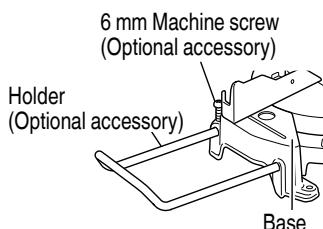

Fig. 17
- As indicated in Fig. 17, installing the holder in the holes on the side of base and fasten it with 6 mm machine screw (Optional accessory).